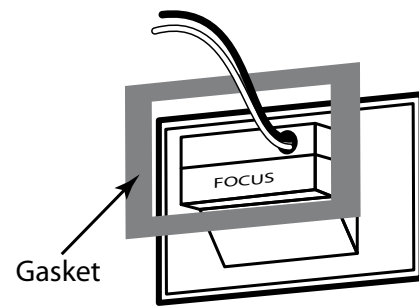

Figure 2
3. Remove tape from gasket and stick gasket to back side of fixture. See figure 2.